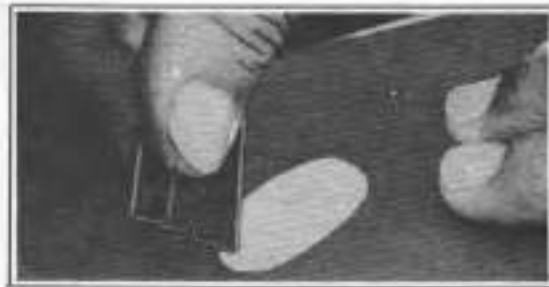

Figure 2-78. Spreading Gel Coat Evenly
8. Spread the gel coat level with the surrounding area and allow to cure (30-60 minutes). See Figure 2-78. Gel coat can be covered with cellophane, if desired, to aid in spreading evenly. Remove cellophane after gel coat has cured.